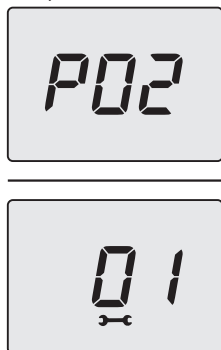

Fig. 9.6
- The value of parameter 02 can be changed from **00=G20** to **01=G31**, which is compatible with LPG, using the 11 or 13 keys (Fig. 9.6).